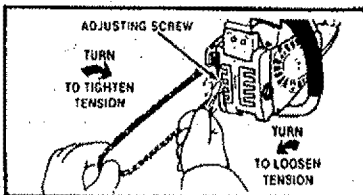

Figure 10
- Turn the adjusting screw counterclockwise ← to move the adjusting pin almost as far as it will go to the rear, Figure 10.
- Turn the adjusting screw clockwise → until the chain is snug in the guide bar groove, Figure 10.
- Hold the tip of the guide bar up and turn the adjusting screw just until the chain does not sag beneath the guide bar, Figure 10.